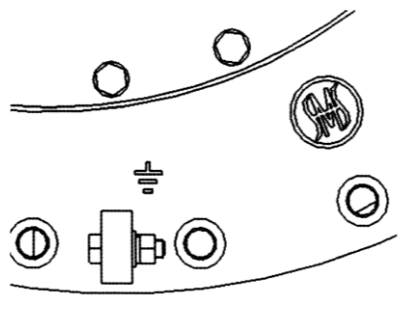

Figure 43 Connect the grounding bolt
- 1) Connect the grounding bolt of the tap-changer head to the transformer tank cover (1 piece of M12 bolt and nut) with a 19mm wrench, torque of 50 to 60 N.m. (Figure 43).